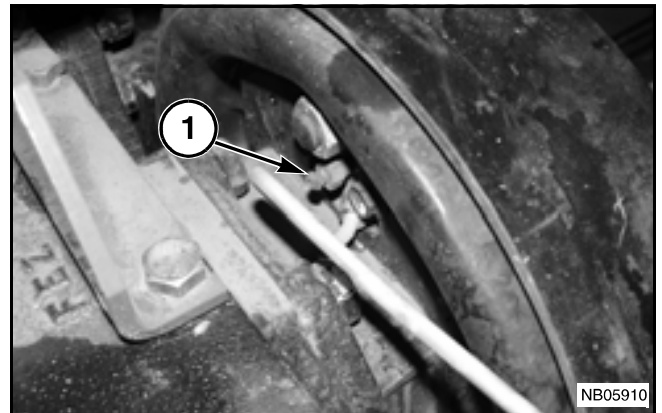

FIG. 116
FIG. 116: Lock the brake pedals together and rapidly pump the brake pedals several times. Then, hold the pedals in a depressed (down) position while a second person opens the bleed screw (1) on the left-hand wheel cylinder allowing fluid and air to escape. As soon as the pedals have reached the full down position, immediately close the bleed screw before allowing the brake pedals to return to the up position.